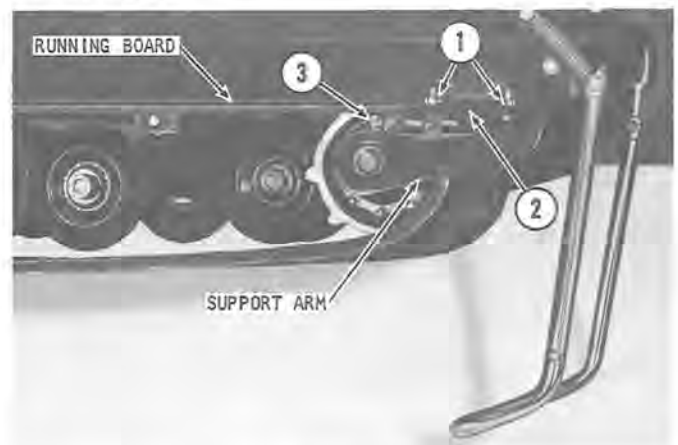

Figure 9A
3. If adjustment is necessary, loosen the two locknuts (1, figure 9A) on each side of the sled sufficiently to permit movement of the belt-adjusting angle (2).
4. Turn adjusting screws (3) clockwise to tighten or counterclockwise to loosen the screws until equal and proper track tension is achieved. **IMPORTANT:** Adjust both screws (3) equally so as not to disturb track alignment.
3. If the track is not centered, loosen the two locknuts (1, figure 9A) securing the belt-adjusting angle (2) on each side of the sled. Tighten adjusting screw (3) on the side where the track is closer to the support arm until the track is centered.
4. After track alignment is completed, check track tension. If satisfactory, tighten locknuts (1).